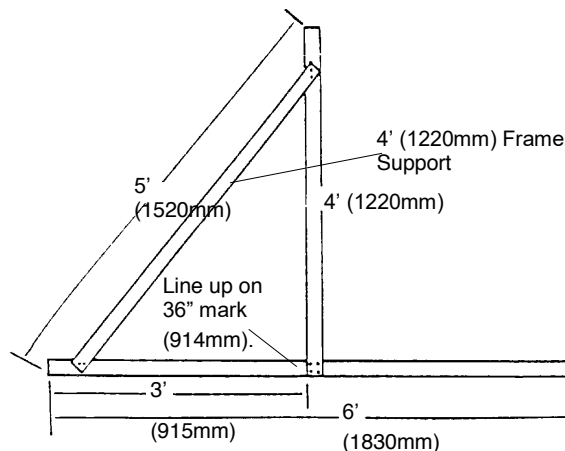

Figure 51: Field Alignment Tool
See figure 51. Construct the square using a 6-ft (1830mm) metal ruler and two 4-ft (1220mm) metal rulers. (Using the 3' (915mm), 4' (1220mm), and 5' (1520mm) measurements assures squareness.) Drill holes and attach the rulers with pop rivets or small nuts and bolts.
1. Mark a tooth on the saw blade to use as a reference. If you are using a high-speed steel blade, mark a tooth that points toward the edge of the **Alignment Tool** (Pg. 45, Fig. 51, described earlier).